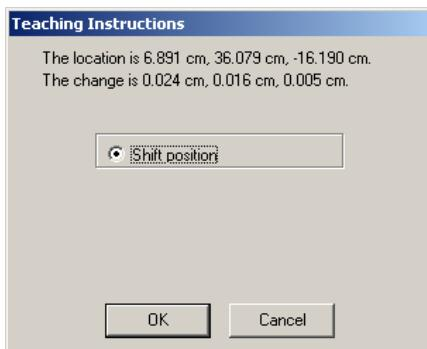

Figure 6. New framing coordinates.
- 2.10 After the framing is performed, another window will open up which provides the measured coordinates for the new framing as compared to the current coordinates (an example is shown in Figure 6).
- 2.16 Click on Start. As directed in step 2.11 and in Figure 6, if the resulting values after framing are equal to or less than 0.025 at the x, y and z coordinates, then click Cancel. If one is greater than 0.025, then click OK.